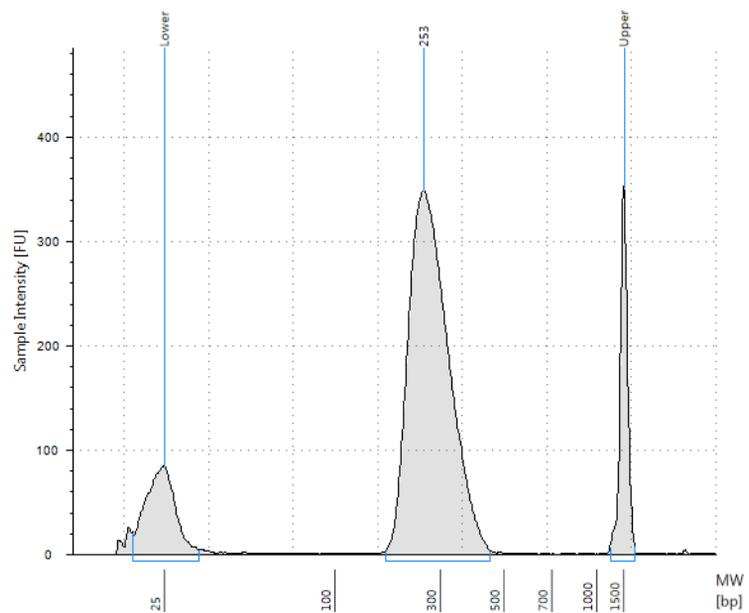

Figure 15 Analysis of amplified captured DNA using the 2200 TapeStation.
- 5 Verify that the electropherogram shows an average DNA amplicon size of 250 to 300 bp. A sample electropherogram is shown in Figure 15.